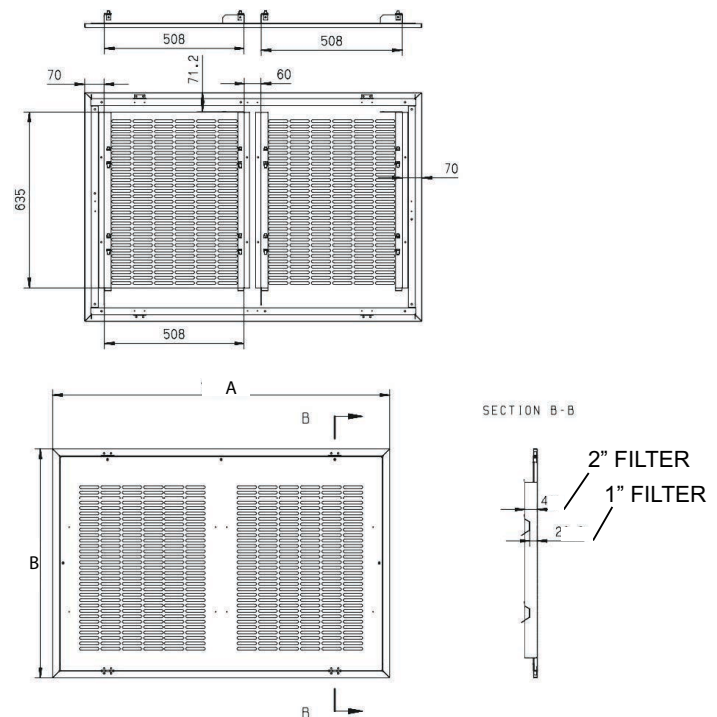
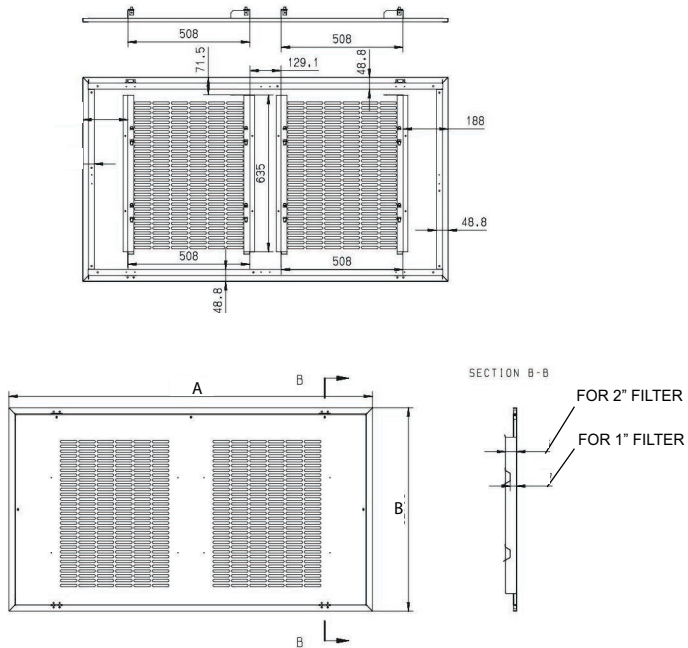

Fig. 1 – 18k/24k Louvered Panel Dimensions
Fig. 2 – 30k/36k Louvered Panel Dimensions
1. Cut opening in the ceiling to fit the louver panel opening size. (18k/24k Units Fig. 1, 30k/36k Units Fig. 2)